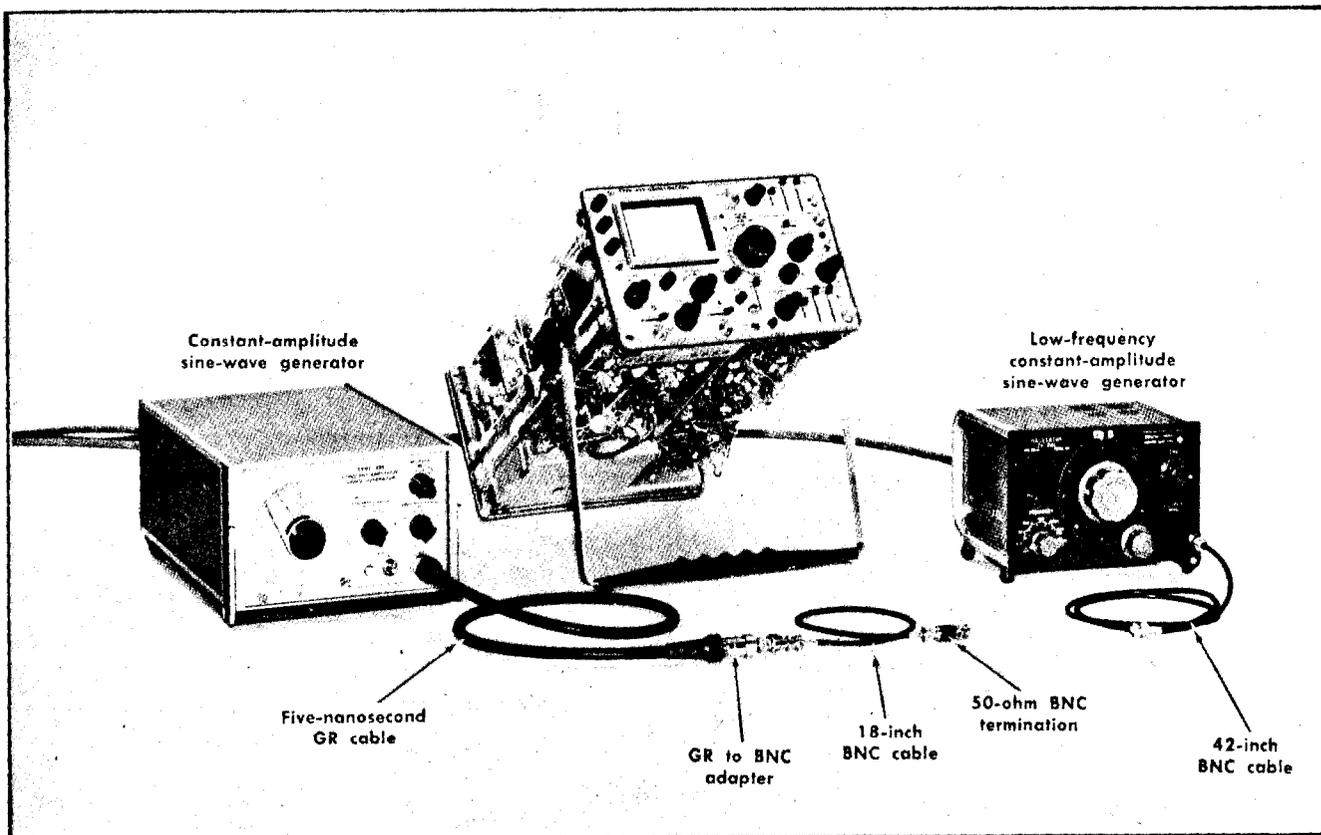

Fig. 6-28. Initial test equipment setup for steps 30 through 40.
30. Adjust A and B Trigger Level Centering ❶
- a. Test equipment setup is shown in Fig. 6-28.